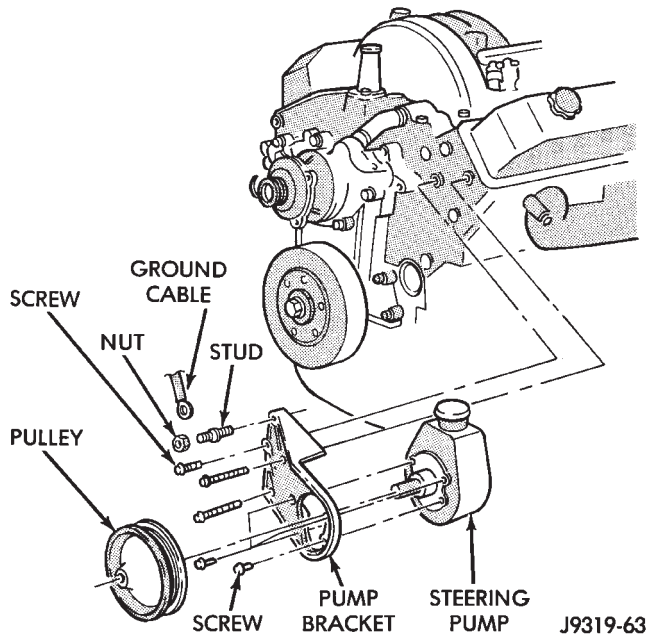

Fig. 3 Pump Mounting (5.2L V/8)
- (1) Remove the serpentine drive belt. Refer to Group 7, Cooling for additional information.
- (2) Place a drain pan under the pump.
- (3) Remove the pressure and return hoses from pump. Refer to Pressure and Return Hose Replacement in this section.
- (4) Remove the bolts that attach the pump to the bracket on the engine block (Fig. 3).
- (5) If necessary, remove the bracket to engine block bolts (Fig. 3).